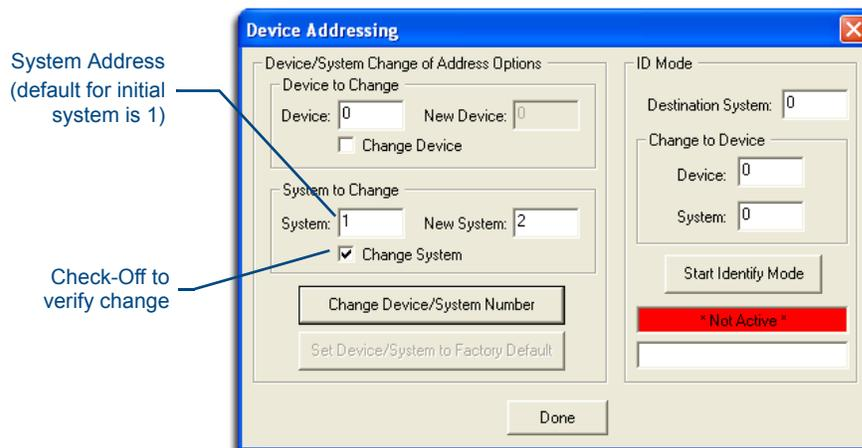

FIG. 16 Device Addressing tab (changing the system value)
1. Access/open the Device Addressing dialog (FIG. 16) by either one of these two methods: